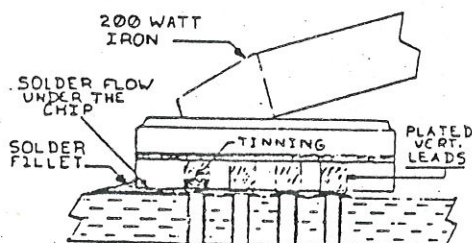

FIG. M-1
STEP 1. APPLY A LIBERAL AMOUNT OF FLUX TO THE AREA SURROUNDING THE MEMORY CHIP. PLACE 200 WATT HEXAGON SOLDER IRON ON THE DESIRED MEMORY CHIP IN THE MANNER SHOWN IN FIGURE M-1. PRESS DOWN GENTLY WHILE WAITING FOR THE SOLDER TO FLOW. ONCE THE SOLDER FLOWS ENOUGH TO ALLOW THE CHIP TO MOVE, REMOVE THE IRON AND, WITH A TWEEZERS, REMOVE THE CHIP.